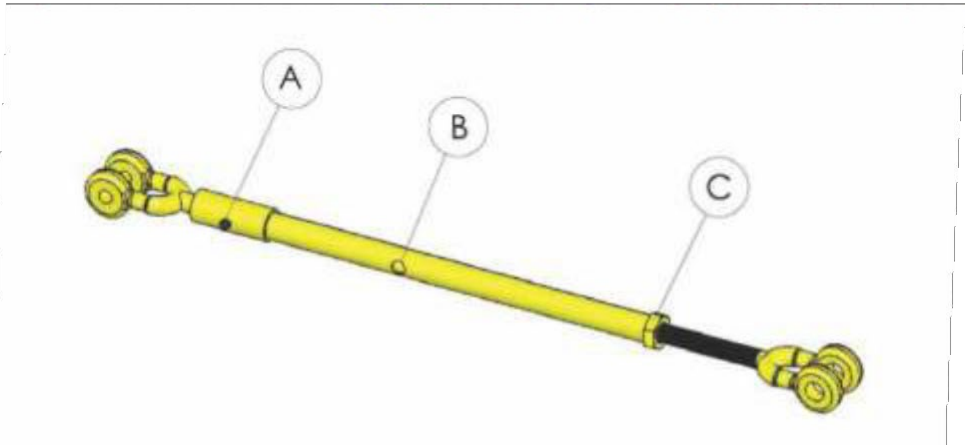

Figure 8c
*Grease the turnbuckle bearings (A) Figure 8c. Use high-grade lithium grease. Pump in the grease until it comes out of the bearing. Ensure that the turnbuckle lock nut (B) Figure 8c is tight.*